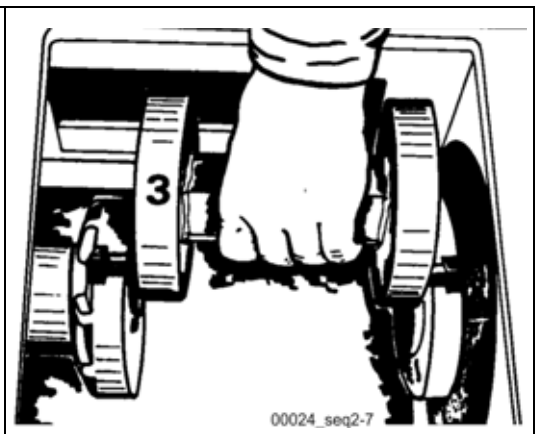

Fig. 331
- Remove the distance piece (Fig. 331).